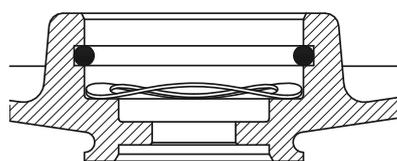

Fig. 30 Correct fitting of spring and O-ring
1. Push bearing (pos. 154) onto shaft (pos. 51).
2. Fit spring (pos. 158) and O-ring (pos. 159). See fig. 30.